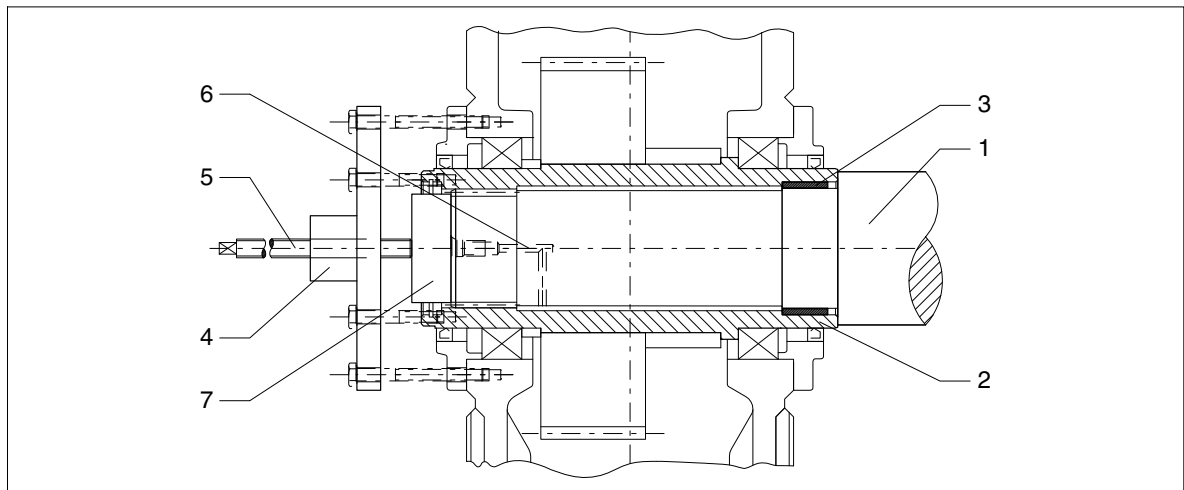

Fig. 53: Hollow shaft with internal spline, demounting with hydraulic lifting equipment ("Lukas")
- If frictional corrosion has occurred on the seating surfaces, rust-releasing agent may be used in order to facilitate forcing off the gear unit. The rust releaser can be injected through the pressure-oil connection (see figure 53), e.g. using a pump.
- When the rust-releasing agent has taken effect, pull the gear unit off with the device (see figures 53 and/or 54).
If the counterforce is provided not only by the hollow shaft, but also by the housing, as shown in figure 53, the forces used must not exceed the values given in the following table 17.